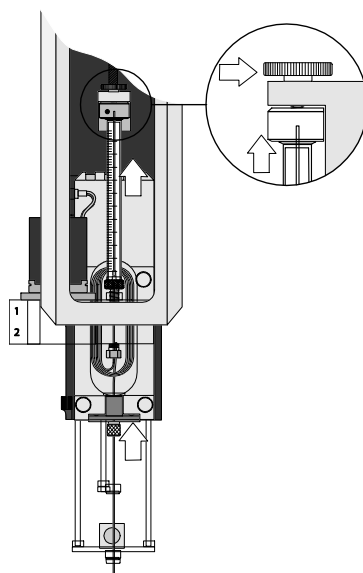

Figure 19. Connecting the DLW Syringe Plunger Holder.
4. Move the plunger up (plunger holder) until the thread of the screw catches the thread of the plunger bushing. Tighten the screw to fix the plunger holder (see Figure 19);
6. Move the lower needle guide carefully up and down to make sure that the needle tip does not catch on the guide. See Figure 19.